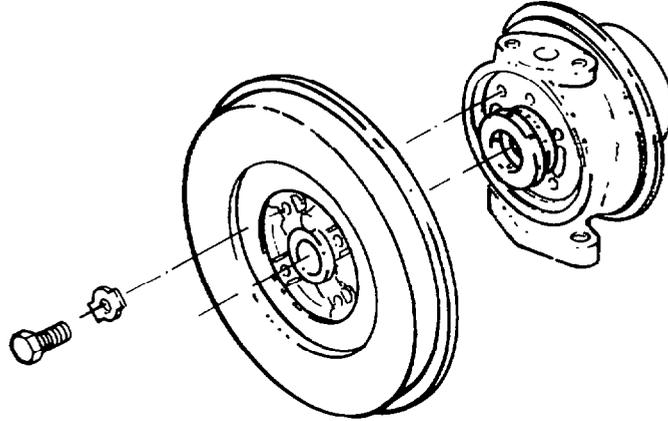

Fig. 139 — Removing Backplate
- NOTE: The piston ring (item 20) for the turbine wheel might catch in the bore of the turbine wheel shroud. Do not use force to free the ring to avoid damaging components.
- g. Remove the bolts securing the backplate (item 7) to the centre housing (see fig. 139); tap the backplate with a nylon mallet to separate it from the centre housing.